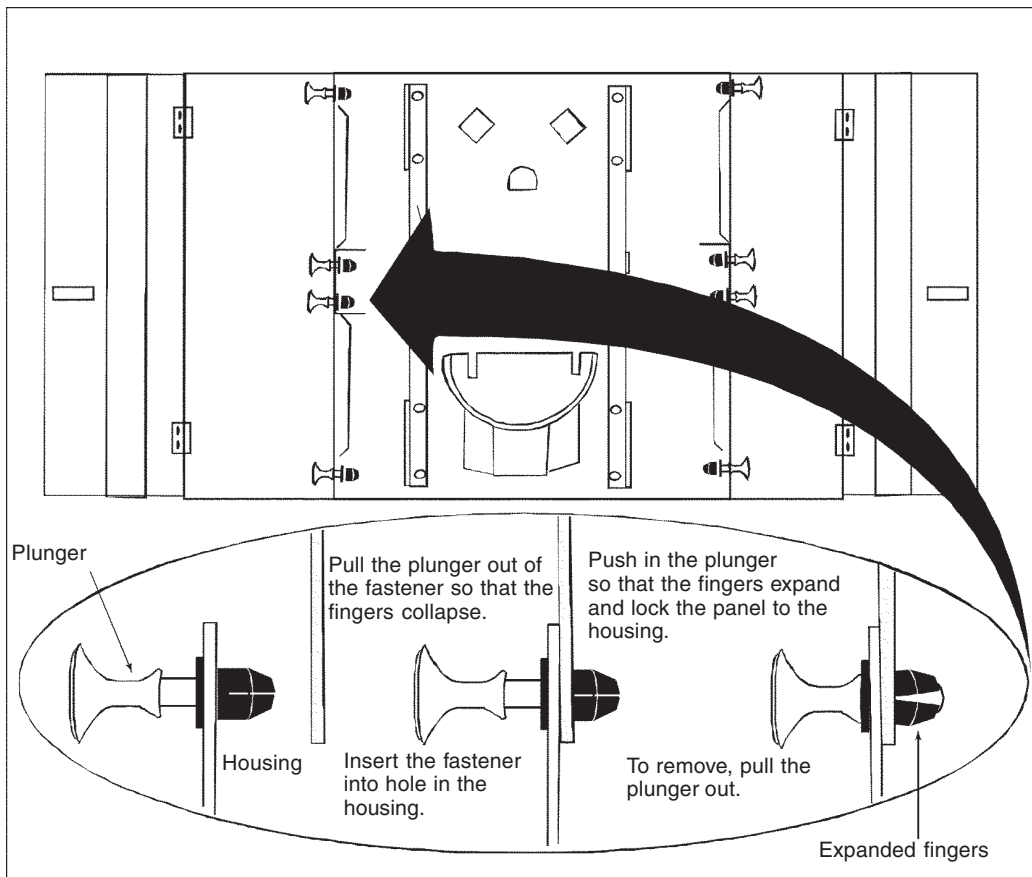

Fig. 21
8.3 Remove the vinyl caps from the three studs in the bottom of the cabinet and place the splice tray holder and its bracket over the studs as shown in Fig. 17. Place and fasten the nuts provided to hold the bracket and holder in place. Swing the tray holder into its closed position and push the plunger into the hole to secure (see also Fig. 21).
10.2 Panels can be mounted or demounted as shown in Fig. 21.